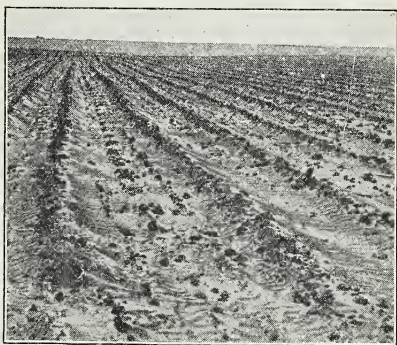

Fig. 410. Furrows at right angles to the wind to reduce soil loss.
**Dry farming.** Even irrigation is impossible in much of the western prairie land and farmers there have resorted to another method of obtaining moisture. They plow the ground deeply, harrow it well in the fall, and leave it in small furrows running at right angles to the usual direction of the wind (Fig. 410). These furrows catch and keep the fine particles of